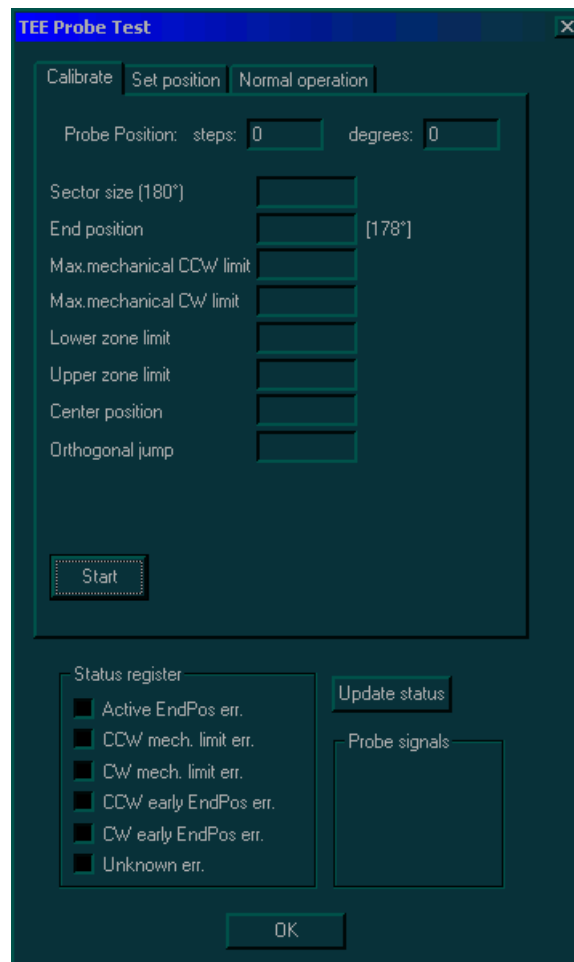

Figure 7-36 TEE Probe Test Dialog Box
- 4) Trackball to the **TEE Probe Control** button and press **Select**. The *TEE Probe Test* dialog box is displayed, as shown in Figure 7-36 "TEE Probe Test Dialog Box" on page 7-62, with all the probe settings.